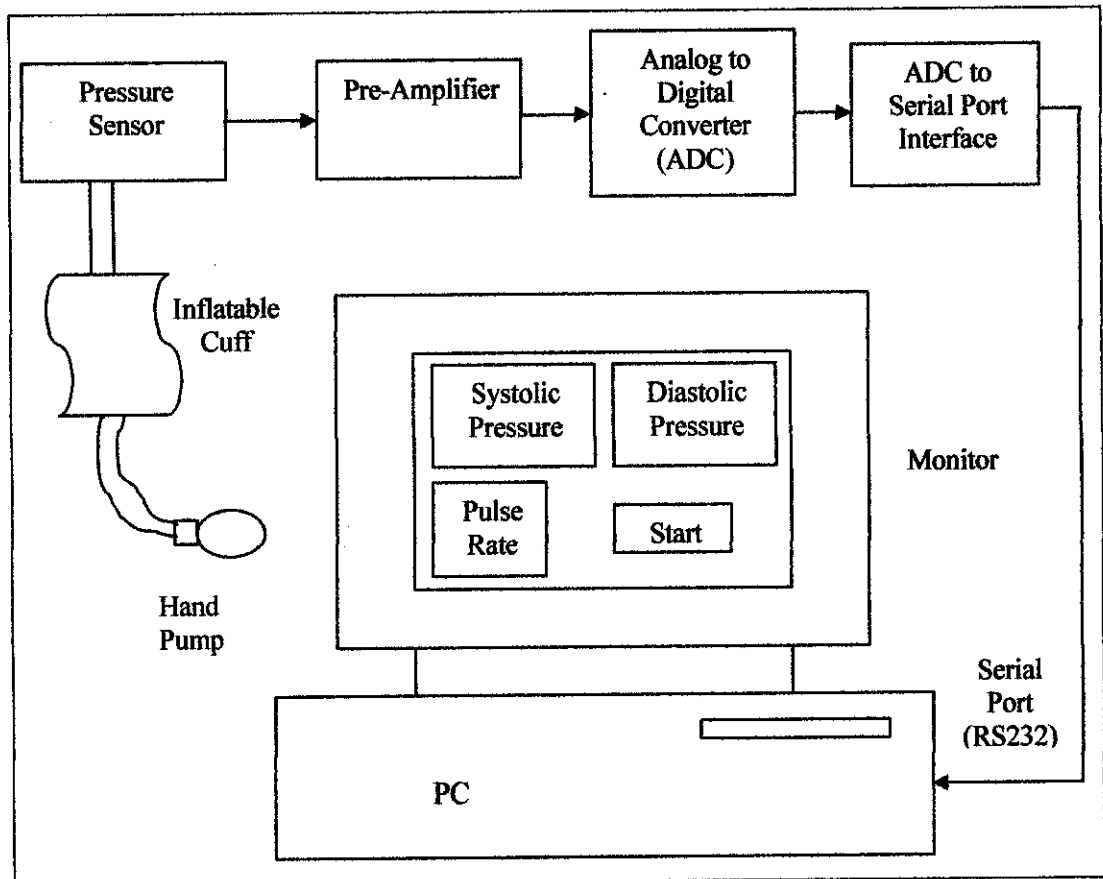

Figure 1: Project block diagram
- Figure 1:** Project block diagram
Figure 1 shows the block diagram of the system. How the system works is the inflatable cuff is first attached to a persons arm. It is then inflated to a level above the systolic pressure so as to obstruct the movement of blood in the artery. The second tube from the inflatable cuff is attached to the nozzle of the pressure sensor. As the air is slowly released from the inflatable cuff, the pressure sensor gives a differential output voltage reading. Because the output of the pressure sensor is fairly small, it is therefore amplified by an amplifier to increase it to a legible level for processing.